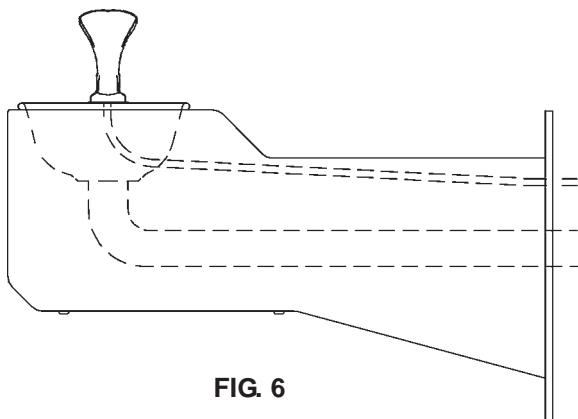

FIG. 6
4. Connect water line from fountain bubbler into freeze resistant box. The connection to the box uses a quick connect water fitting. Position the water line, in the fountain, to drain back into interior mounted box. Any water left standing, in the exterior line, can freeze. See Fig. 6